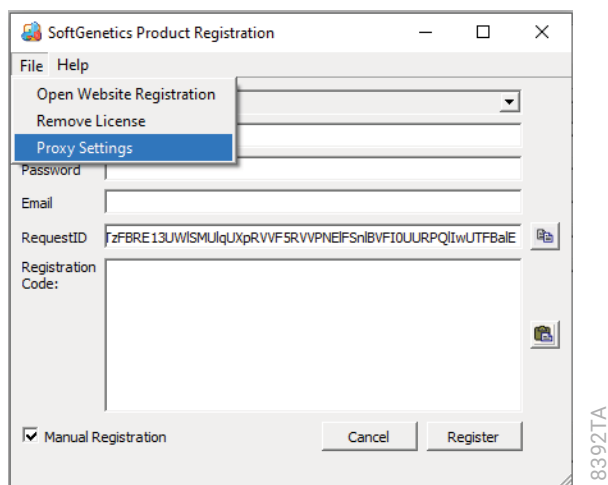
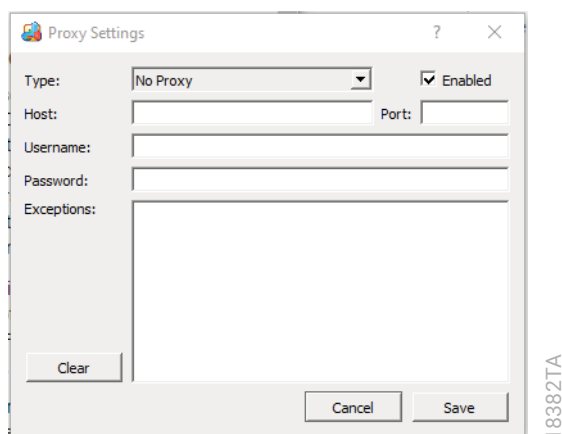

Figure 36. Accessing the 'Proxy Settings' window from the 'SoftGenetics Product Registration' window.
Figure 37. 'Proxy Settings' window.
1. Select **Proxy Settings** from the 'File' menu of the 'SoftGenetics Product Registration' window (Figure 36) to open the 'Proxy Settings' window (Figure 37).